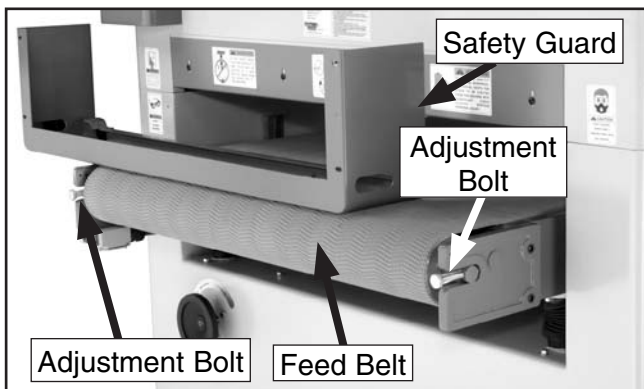

Figure 77. Feed belt tension adjustment bolts.
2. Find the adjustment ports in the safety guard (**Figure 77**) at the front end of the feed table.
3. Turn both left and right adjustment bolts (**Figure 77**) clockwise equally to increase tension.
2. If the feed belt is tracking to the **right** side of the table, turn the **right** adjustment bolt (**Figure 77**) clockwise.